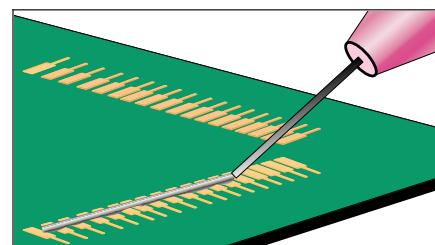

Figure 1 Apply Solder Paste
3. Apply a small bead of solder paste along the land pattern using a dispenser. (See Figure 1.)